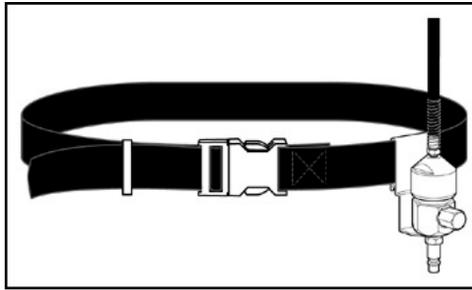

Fig. 7
4. Place the metal belt clip of the air regulator/connector on the belt. (Fig. 7)